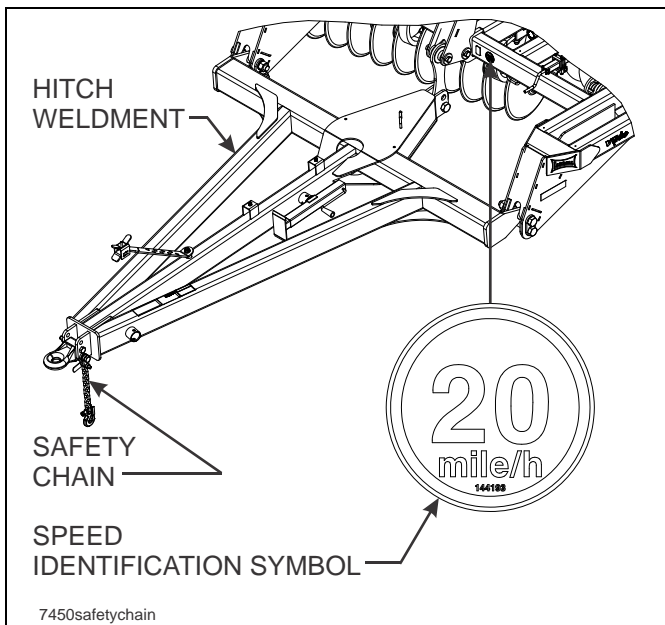

Figure 4-21: Hitch, Speed Identification Symbol, and Safety Chain
2. The 7450 should be transported only by tractor required for field operation. The implement weight should not exceed more than 1.5 times the tractor weight. **Refer to “Standard Specifications” on page 2-1** for estimated weight of each model. Maximum transport speed for the 7450 is 20 mph for the implement and is designated on the speed identification symbol located on the front of the implement (**See Figure 4-21.**)
- b. Attach the safety chain to the tractor drawbar (See Figure 4-21.) Provide only enough slack in the chain for turning. Do not use an intermediate chain support as the attaching point for the chain on the tractor. Do not pull the implement by the safety chain.